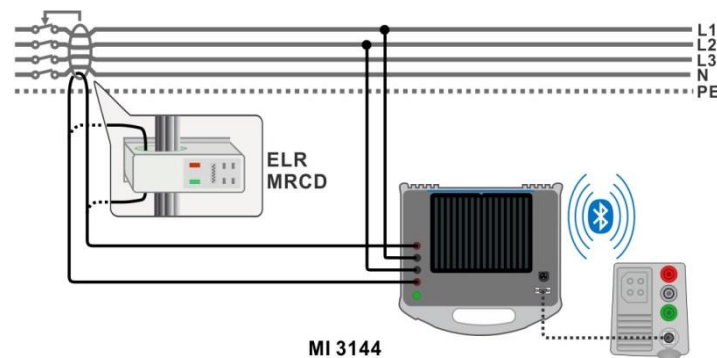

Figure 7.81: ELR Current Injection Test / Combination Time Test connection
- ▶ Connect test leads to the object under test. See *Figure 7.81*.
See *Figure 7.81*.
- ▶ Connect test leads to the object under test. See *Figure 7.81*. Refer to *MI 3144 Euro Z 800 V Instruction manual* for detailed information.